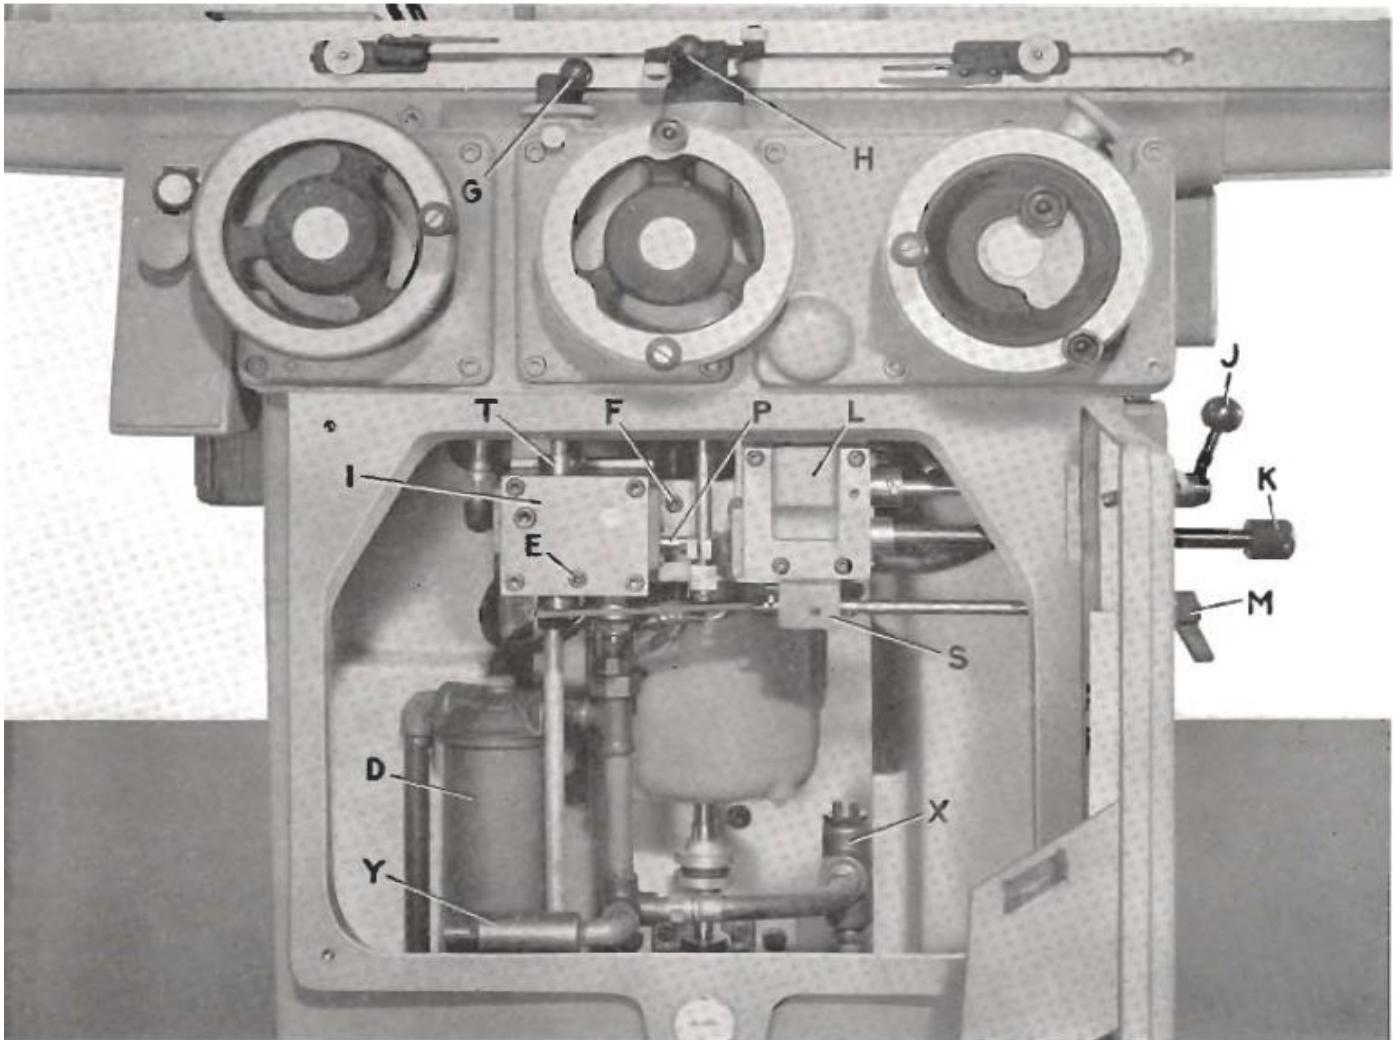

Fig. 17. Front Compartment Reveals Hydraulic System
* Refer to Figure 17 and the full color schematic diagram on page 22 for identification of parts and check points mentioned in the copy.